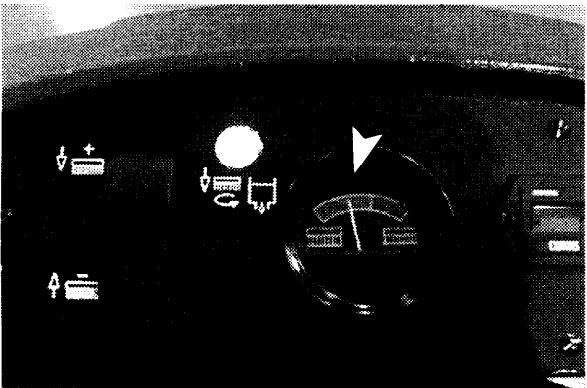

Figure 22
1. Observe brush pressure meter. Meter should read within the green zone, press brush switch to adjust pressure (Fig. 22).